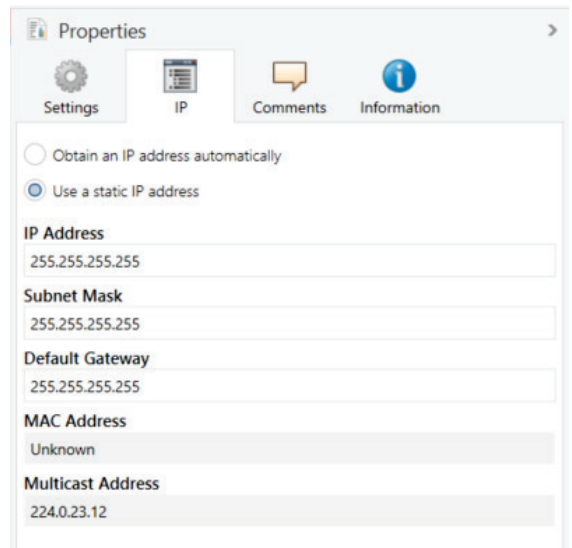

Figure 8: Setting for the device's IP address data on the "IP" tab in the sidebar of the ETS.
3. Select the "IP" tab according to Figure 8. Then select either